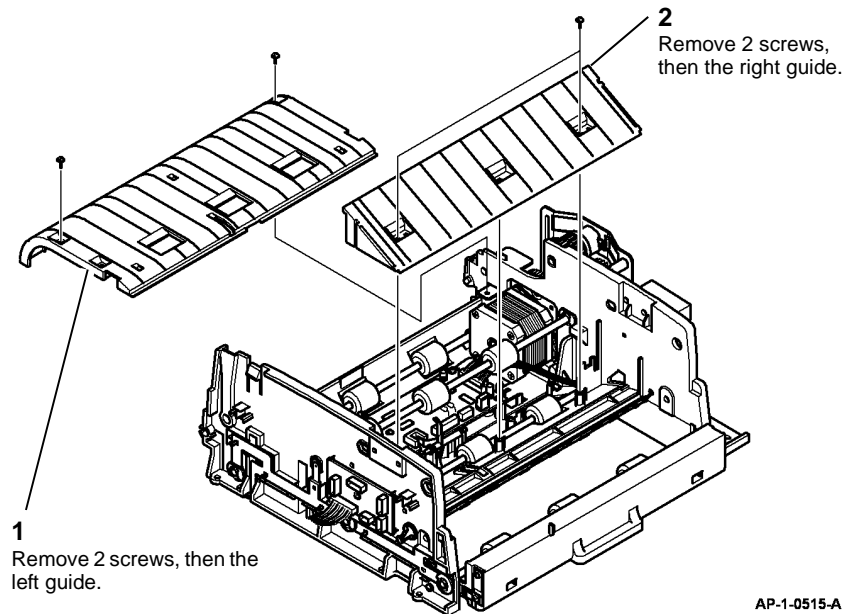

Figure 17 Guide removal
18. Remove the guides, **Figure 17**.